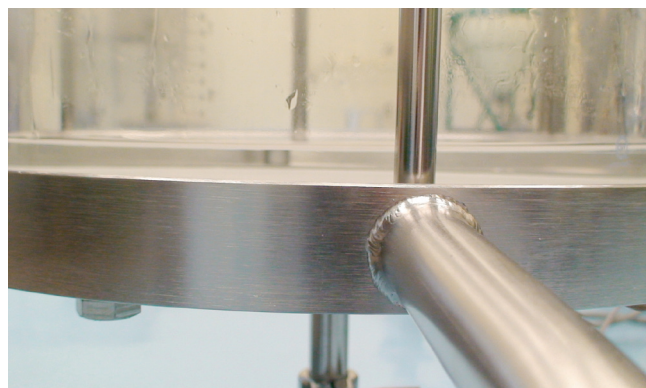

Fig. 1. Prepare the column with packing buffer.
- Fill the column with 5–7 cm of packing buffer and drain until approximately 1 cm of packing buffer remains in the bottom of the column (Figure 1)